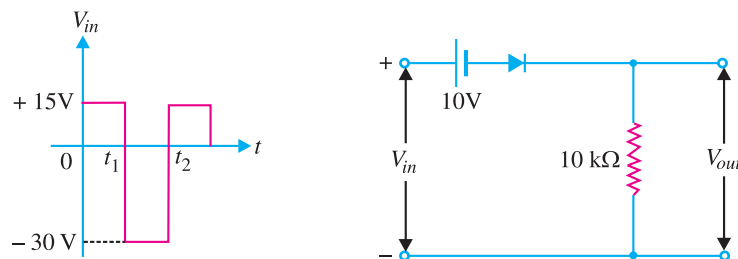

Fig. 18.38
**Example 18.13.** For the input wave to the clipping circuit in Fig. 18.38, find the output waveform.